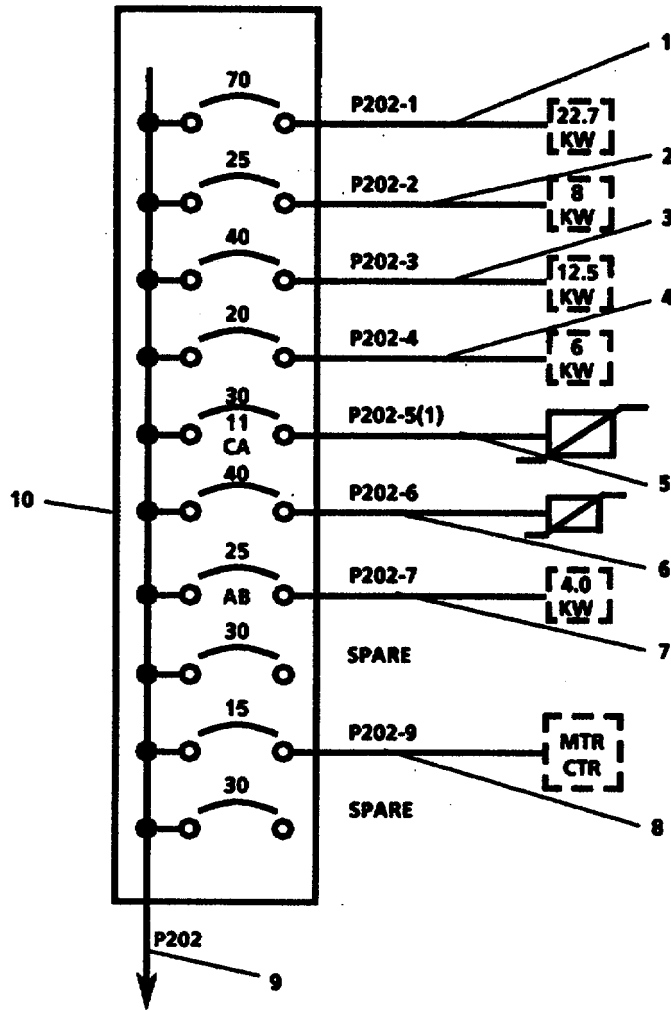

FIGURE 3-130. Power Distribution Panel. Galley (P202).
**3-144. Repair Power Distribution Panel, Galley P202. (Figure 3-130)**